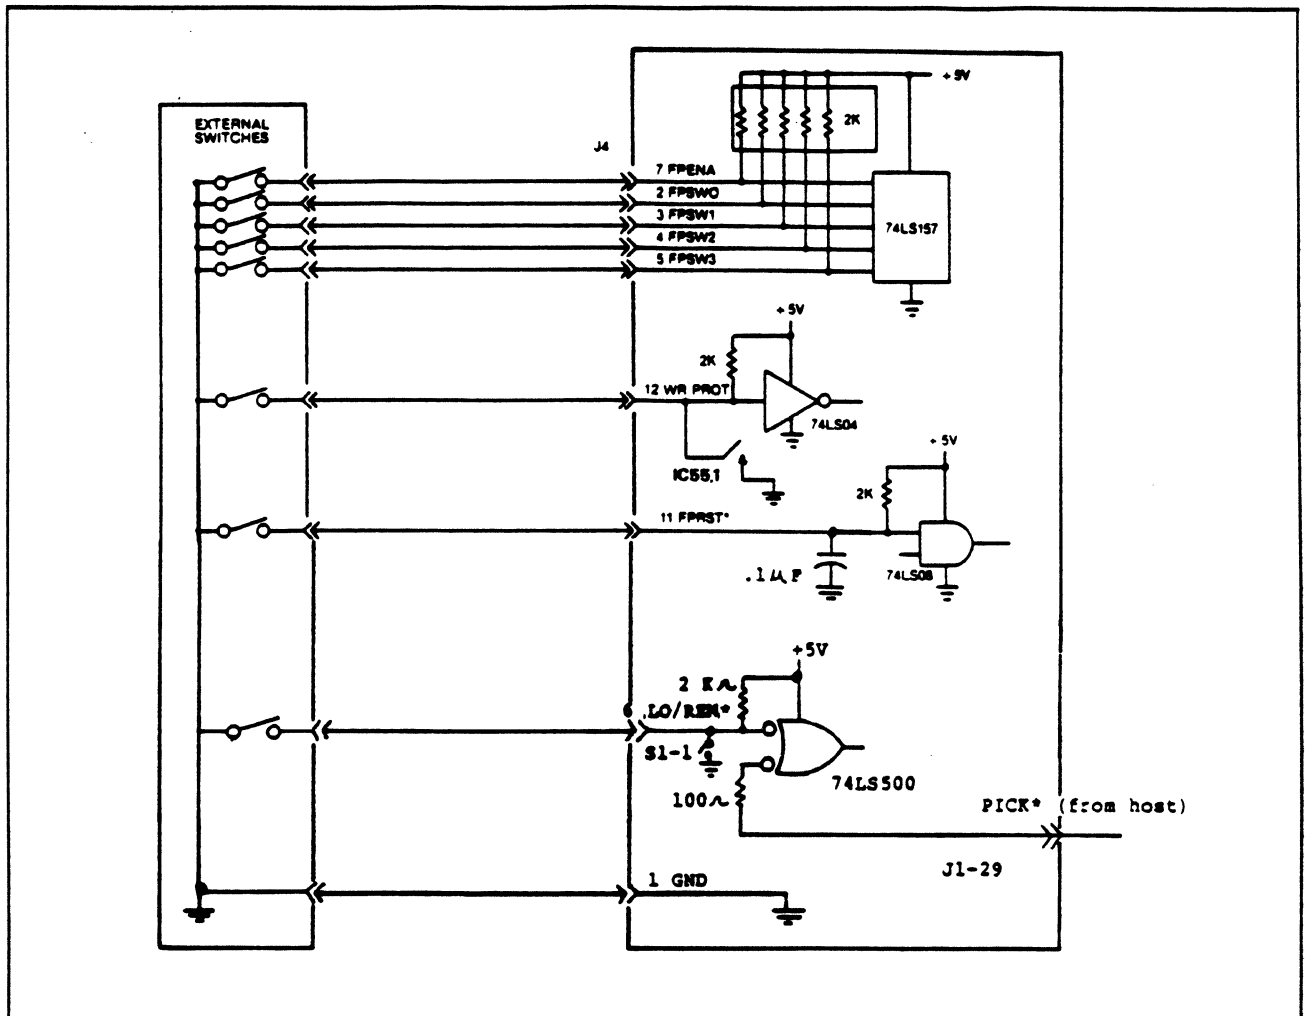

Figure 19 Control Line Circuits
Figures 19 and 20 show the External Interface Control and Display Line Circuits.
- for switch panel designs ON is grounded and OFF is open. See Figure 19.